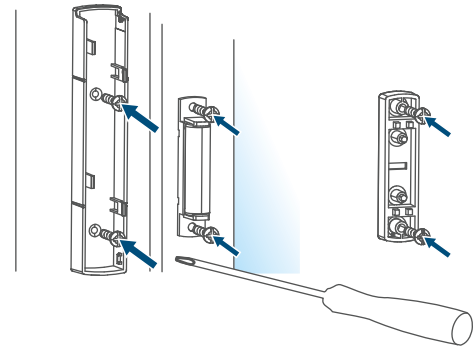

Figure 12
- Place the back side of the magnet contact or the spacer to the desired mounting location and turn both screws (2.2 x 13 mm) into the screw holes (see figure 12).